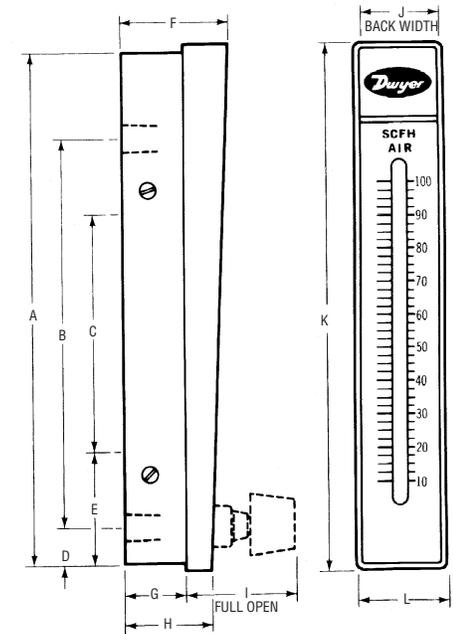

Fig. 2
The Series RM Rate-Master® Flowmeters are furnished in three models (see Fig. 2), each available in a broad array of flow ranges with direct reading scales for air, gas or water. Installation, operation and maintenance are very simple. Only a few common-sense precautions must be observed to assure long, trouble-free service.
**Bezel or Through-Panel Mounting:** Make panel cutout using appropriate dimensions from Fig. 2. Flowmeter must fit into panel freely without forcing or squeezing. Insert the flowmeter from the front of the panel and install the mounting clamps from the rear. Insert and tighten the clamp bolts in the locations shown in Fig. 3. Do not exceed 5 in./lbs. Make connections to inlet and outlet ports using pipe thread sealant tape to avoid leakage. Avoid excess torque, which may damage the flowmeter body.
**Surface Mounting:** Drill appropriate holes in panel, using the dimensions shown in Fig. 2. Hold the flowmeter in position in front of the panel and install the clamp bolts from the rear. (The mounting clamps may be used as washers, if desired, by installing them backwards or straightening them out.) Pipe up inlet and discharge following the directions in the previous sections.
**Surface Mounting on Piping Only:** An alternate method of surface mounting, omitting the clamp bolts and supporting the flowmeter solely on the connecting piping, is possible. For this method, extra-long or straight pipe threads should be used so that nuts may be run onto the pipe and later tightened against the back of the panel to retain the unit in proper position. Use appropriate hole layout in formation from Fig. 2, but omit the small holes.